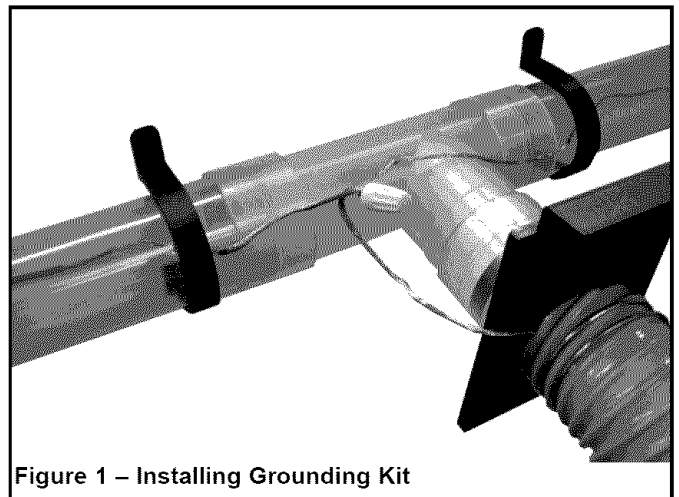

Figure 1 – Installing Grounding Kit
Refer to Figures 1 and 2.
- Grounding wires will be joined with wire nuts after flexible hoses are installed (see Figure 1).
- Other end of wire is pulled around blast gate to be attached to the pipe wires (see Figure 1).